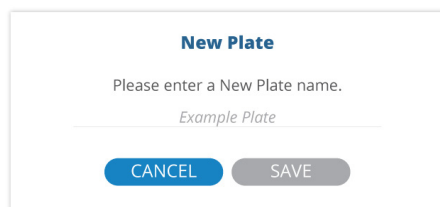

Fig. 36—Plate name popup.
2. Select the *Plate Name* drop-down in the *Details* area on the right side of the screen. Choose from the list of existing plates or select *New Plate* to define a new plate. A popup appears so you can enter a name for the plate (Fig. 36).